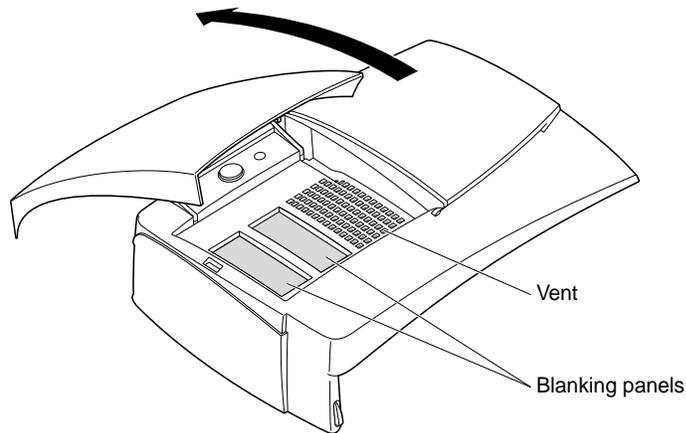

Figure 7-9 Opening the Bezel Door
2. Open the door, as shown in Figure 7-9.